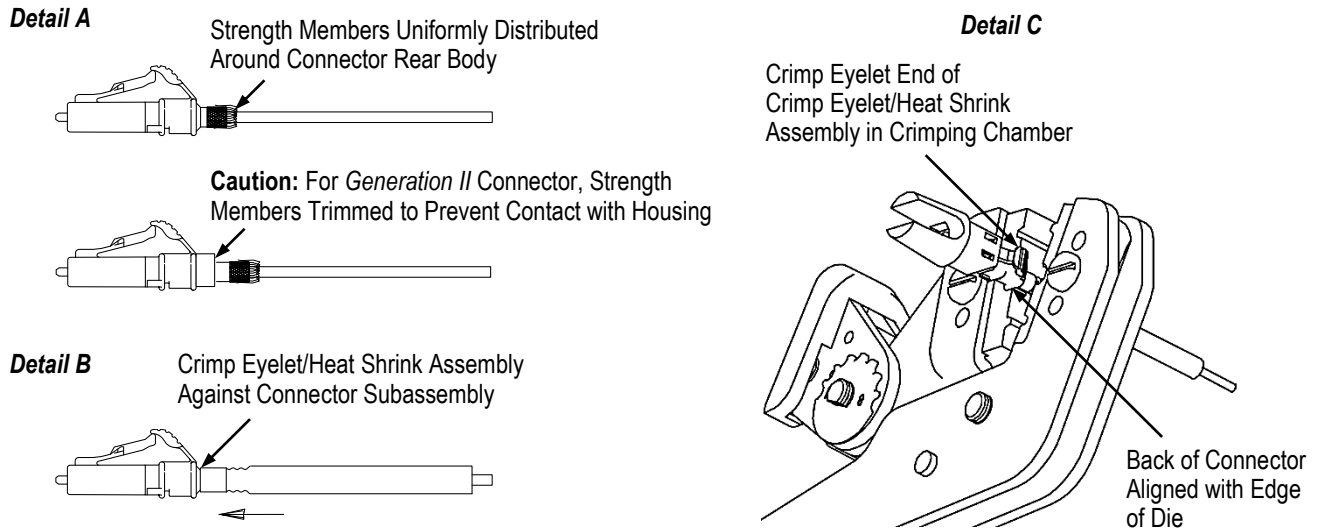

Figure 5
2. Uniformly distribute the cable strength members around the rear body of the connector. See Figure 5, Detail A.
For the *Generation II* connector, ensure that the aramid strength members do not contact the housing; otherwise, excess aramid can be caught under the bend-limiting boot. See Figure 5, Detail A.
3. Slide the crimp eyelet/heat shrink assembly over the cable strength members until the crimp eyelet end bottoms against the connector. See Figure 5, Detail B.
4. Place the crimp eyelet end of the crimp eyelet/heat shrink assembly into the crimping chamber of the dies. Align the back of the connector with the edge of the die as shown in Figure 5, Detail C. Hold the connector subassembly in place, and actuate the hand tool.